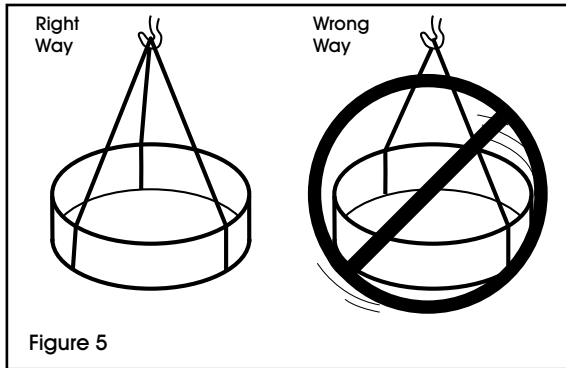

Figure 5
- Lift must be stable with respect to the center of gravity - balanced. (See Figure 5)